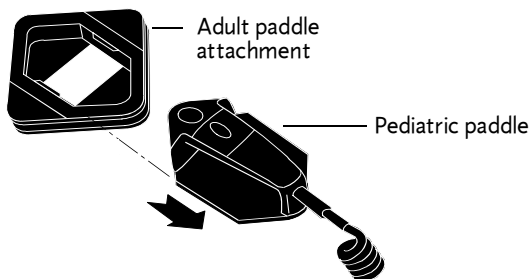

Figure 5-8 Accessing a Pediatric Paddle
- 2 Slide the paddle handle back until you hear a click (refer to Figure 5-8).